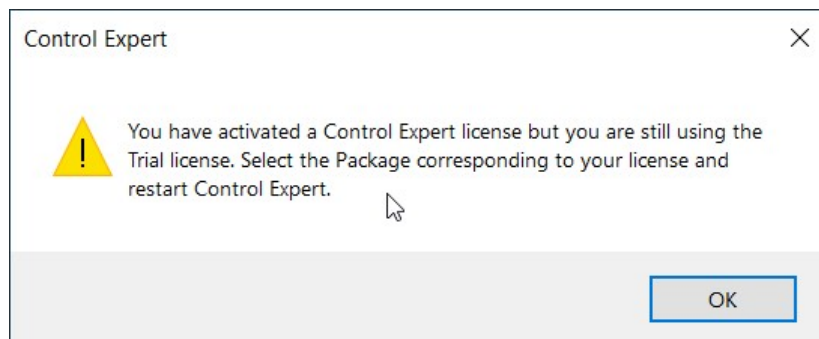

Figure 8 – Message window.
- Click on OK in the message window that appears (See Figure 8.).